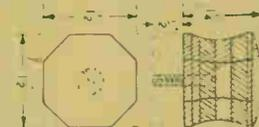

Fig. 3—End view and section of knob
The handle (E) is made up from five pieces of Perspex each measuring $1\frac{1}{2}$ ins. square by $\frac{1}{4}$ in. thick, and you can give it a novel touch by using differently coloured pieces, and mixing transparent and opaque material in layers. A 1in. long, 1 B.A. countersunk screw is 'buried' in the handle as shown in Fig. 3. Drill a 1 B.A. clearing hole in one of the pieces and countersink it for the screw head.